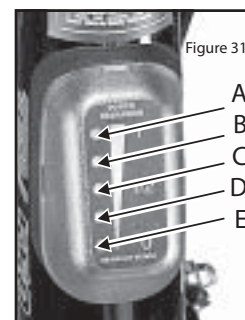

Figure 31
3. The five state-of-charge LED's (figure 31) flash once simultaneously and one beep sounds to indicate the Power Assist System is ready for operation. The relevant LED then turns on to display the current battery charge level.
Five LED's (figure 31) found on the bicycle frames down tube indicates the approximate charge remaining while the bicycle is at rest.
- The first LED (figure 31, A) (counting from the top) indicates full charge. The battery is 75% to 100% charged when this LED is on.
- The second LED (figure 31, B) indicates the battery is 50% to 75% charged.
- The third LED (figure 31, C) indicates the battery is 20% to 50% charged.
- The fourth LED (figure 31, D) indicates the battery is less than 20% charged or near empty.
- The fifth LED (figure 31, E) indicates 0 or empty. The battery is fully discharged and must be charged. When this LED is on, power to the motor is automatically shut off. Turn the key to "OFF" immediately. A warning beep sounds continuously until the key is turned OFF.
- The second LED (figure 31, B) indicates the battery is 30% to 50% charged.
- The third LED (figure 31, C) indicates the battery is 10% to 30% charged.
- The fourth LED (figure 31, D) indicates the battery is near empty.